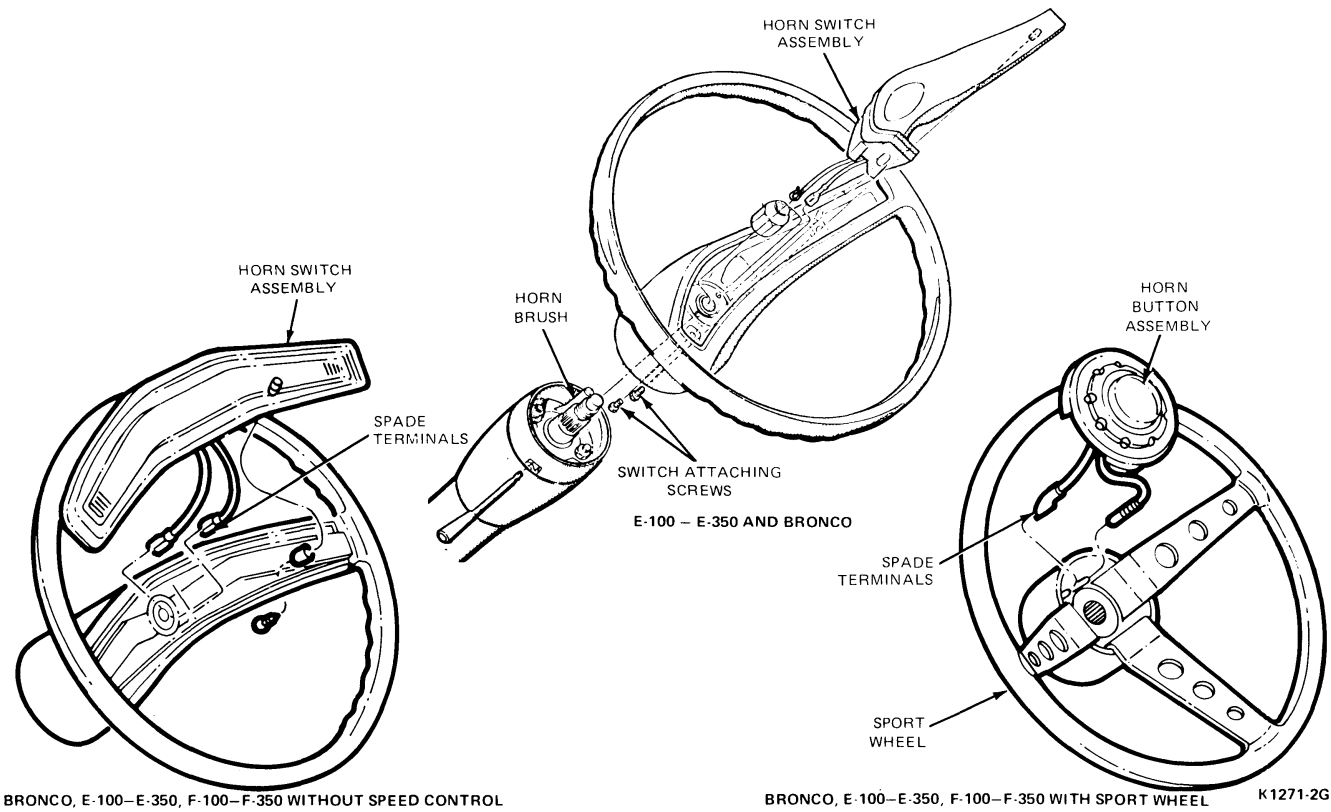

FIG. 3 Horn Contact Button
2. Disconnect the horn switch wires by pulling the spade terminal from the blade connector (Fig. 3).
3. To install, connect the spade terminals to the blade connector, and press the ground terminal fully into the threaded hole (speed control only) (Fig. 3).